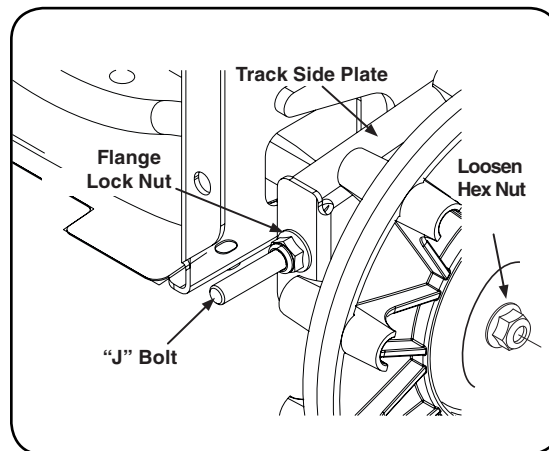

Figure 5-6
- Turn the flange lock nuts on the front of the track side plates. This pulls the "J" bolts attached to the axle and tightens the tracks. See Figure 5-6.
- Loosen the hex nuts on the front idlers, see Figure 5-6.